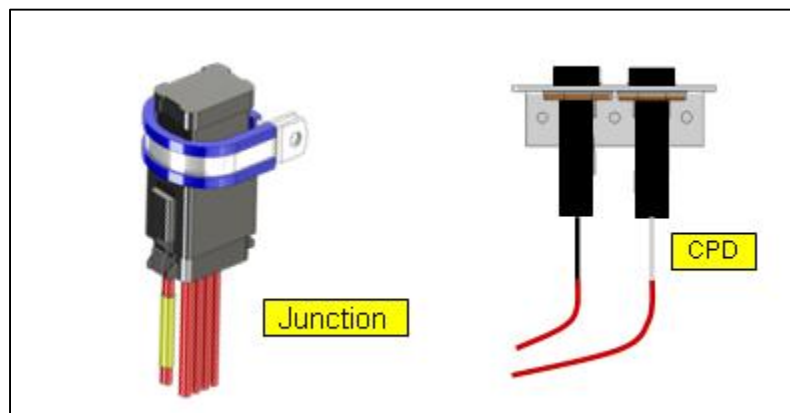

Figure 4 – Example of clamp positioning on junction and CPD (Circuit Protection Device) TU03141-B dual fuse kit.
4. CPD (Circuit Protection Device) (Figures 4, 10, and 12):
5. Junctions (Figures 4, 10, and 12):